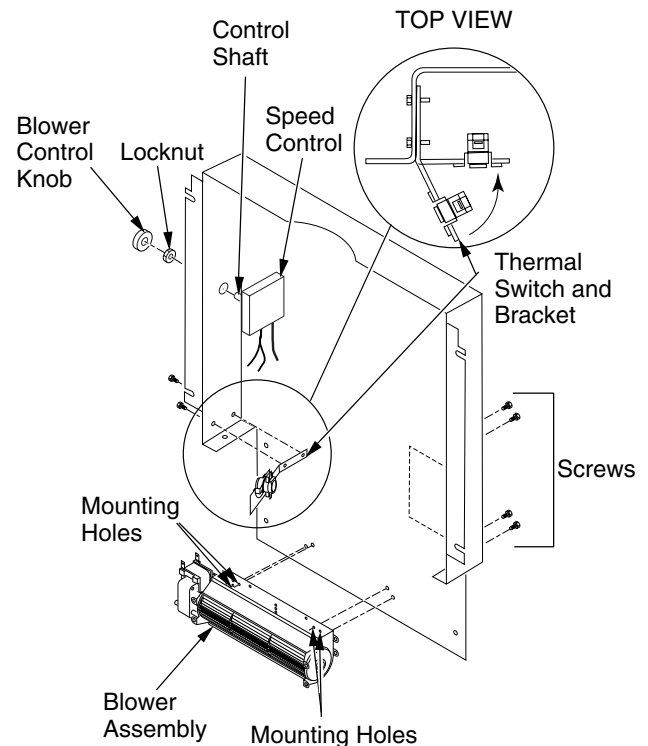

Figure 17 - Blower Assembly, Speed Control, and Thermal Switch Locations
3. Align the holes in the top mounting tabs of blower with the holes in wall of rear cover. Using the 4 screws provided, mount blower and tighten screws securely (see Figure 17).
4. **Thermostat Blower Only:** Attach thermal switch and bracket to inside rear cover wall with two hex head screws provided as shown in Figure 17. After securing bracket to rear cover, carefully bend along existing bend line on bracket to almost a 90° angle (see Figure 17). This will allow thermal switch to be positioned against stove rear wall and sense temperature when in operating mode.
5. Place speed control on left inside of rear cover and push the plastic control shaft through opening (see Figure 17).